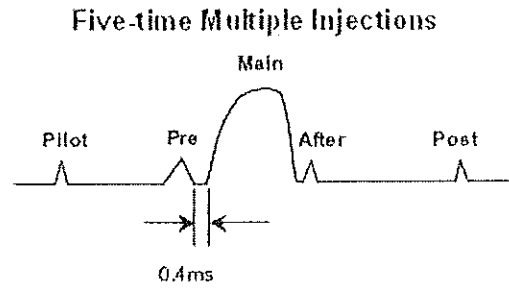

Figure Q04
- (c) Figure Q04 shows five time multi point injection pattern for a typical common rail diesel engine. Briefly explain the significance of each point.